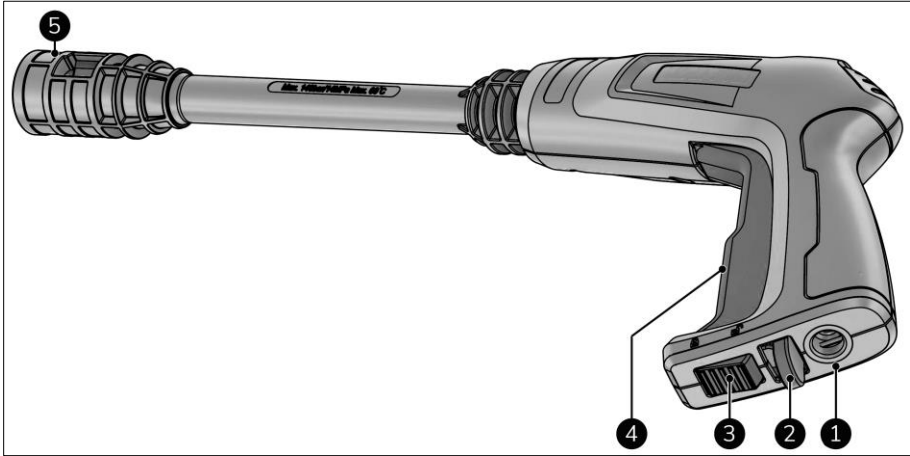

Figure 6
3. Squeeze the trigger (Figure 6, pos. 4) and start cleaning.
1. If applicable, release the trigger (Figure 6, pos. 4).
2. Lock the safety lock under the trigger (Figure 6, pos. 3).
1. Release the trigger (Figure 6, pos. 4).